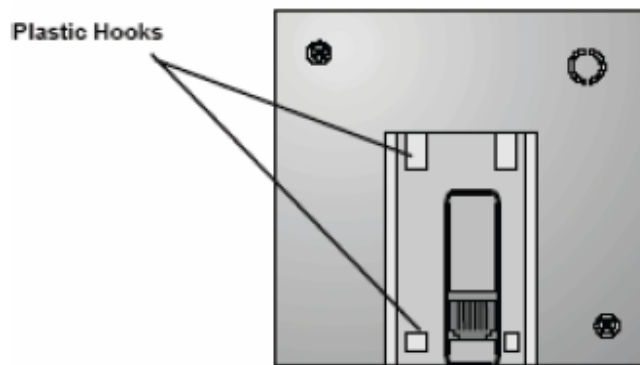

Fig. 3 KIRK Repeater rear panel mounting surface
- Mount the KIRK Repeater on the wall-mounting bracket, sliding the plastic hooks on the back of the Repeater onto the bracket and pressing down until the hooks engage (fig. 3).